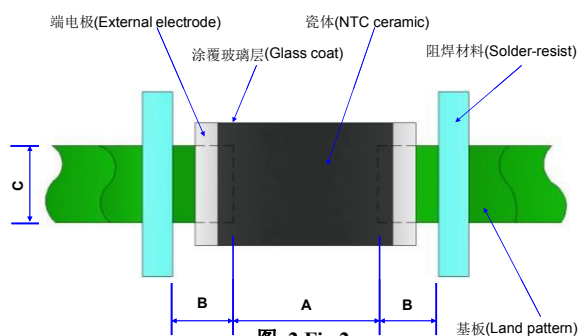

图 2 Fig.2
- PCB 焊盘: 见图 2 和表 1
- Recommended PCB pattern for reflow soldering: See Fig.2 and Table 1